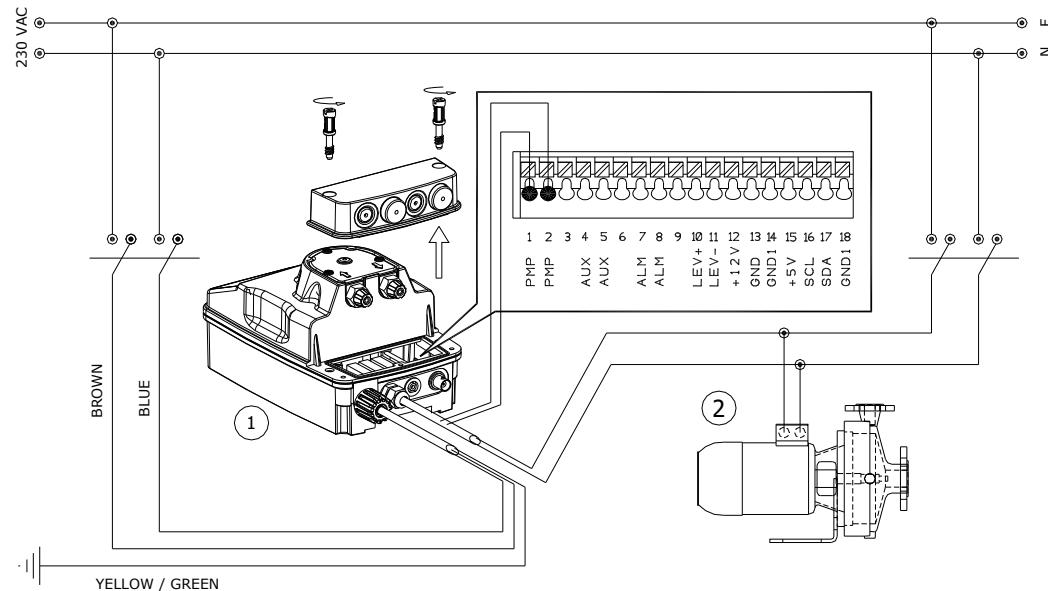
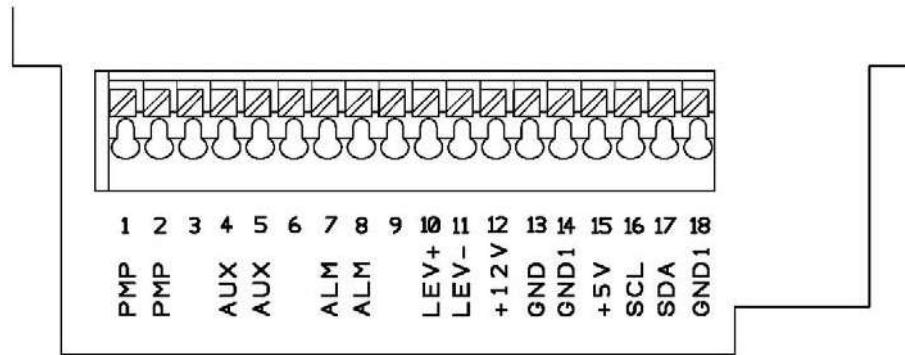

Fig. 2 – Installation and terminals
Fig. 5 – Service Connector
Carefully observe the regulations in force in the various countries as regards electrical installations (Fig.2). **When the supply cable is devoid of a plug, the equipment should be connected to the supply mains by means of a single-pole circuit breaker having a minimum distance of 3 mm between the contacts. Before accessing any of the electrical parts, make sure that all the supply circuits are open.**
Before attaching the delivery hose to the plant, prime the peristaltic by going through the sequence shown in fig.5. Try to keep both the suction and discharge hose as straight as possible, avoiding all unnecessary bends. Select the most appropriate injection point on a pipe of the plant to be treated and there fit a 3/8" female steel gas thread connector (similar to BSPm). This connector is not supplied with the pump. Screw the injection valve to the gas connector, inserting a gasket tape as Teflon. Then connect the discharge hose to the conical connector on the injection valve and fix it with the supplied tube nut. The injection valve also acts as no return valve by means of a cylinder sleeve.
In figure 5 is shown the scheme of the service connector for the connection of the various services. To the service connector is accessed by removing the protective cover as shown in fig. 2.
- **Connectors 1-2 (PMP)=** Connection for the recirculation pump. Input at 230V. (Fig.2).